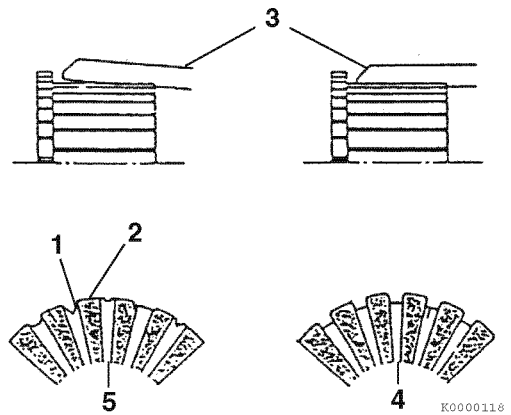

Figure 10-14
Measure the depth of the insulating material (Figure 10-14, (1)) between commutator segments (Figure 10-14, (2)). If the depth measures less than the limit, use a hacksaw blade (Figure 10-14, (3)) to remove the insulating material until the depth is within the limit. See *Starter Motor Specifications* on page 10-5 for service limit.
A normal commutator condition is indicated in (Figure 10-14, (4)). An abnormal commutator condition is indicated in (Figure 10-14, (5)).